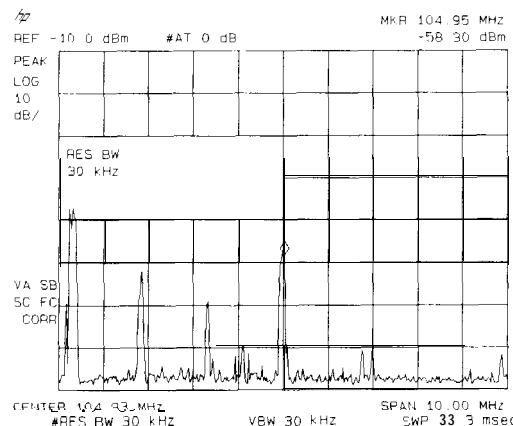

Figure 3-18. Decreasing Resolution Bandwidth
2. Press (BW) then ( $\downarrow$ ). The low-level signal appears more clearly because the noise level is reduced. See Figure 3-18.